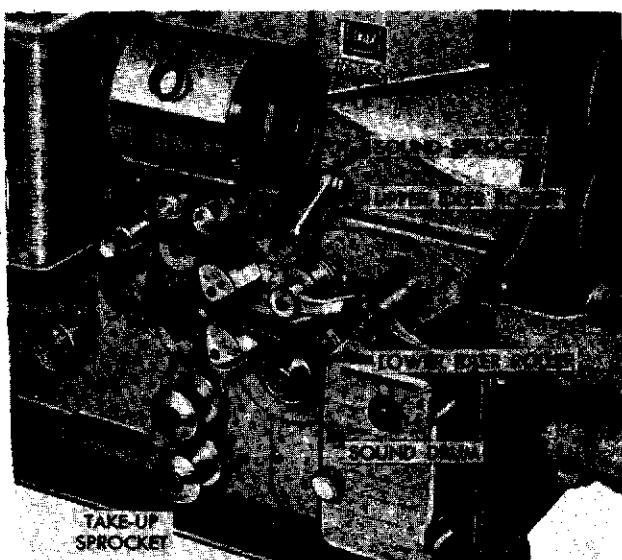

Figure 1-17. Forming the Lower Film Loop
e. Lift the sound sprocket film shoe away from the sound sprocket (figure 1-17). Form a lower loop of film of a size to correspond with the loop threading mark on the projector mounting plate. While maintaining the size of the lower loop, pass the film over the sound sprocket, making certain that the film perforations engage the sprocket teeth. Push down on the sound sprocket film shoe to lock the film in place over the sound sprocket.
f. Pass the film under the upper idler roller and around the sound drum, facilitating this procedure by raising the guide roller as shown in figure 1-17. After passing the film around the sound drum, lower the guide roller to its operating position over the sound drum.